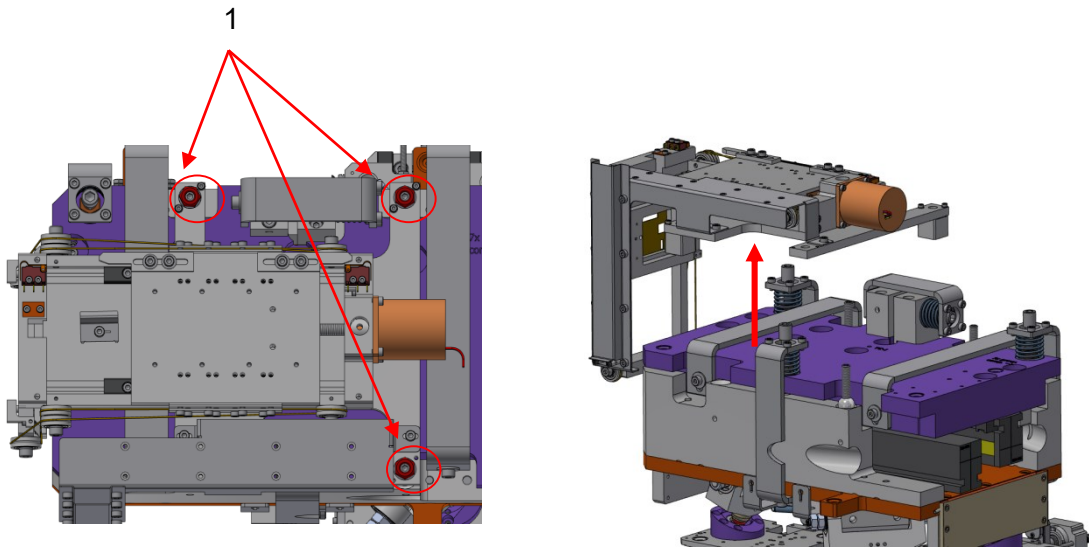

Figure 57: M5 mirror holder assembly top view (left) and side view (right)
- F. Loose and remove the three M6 nuts indicated in the left side of Figure 57.
G. Carefully remove the complete mask assembly as illustrated in the left side of Figure 57.